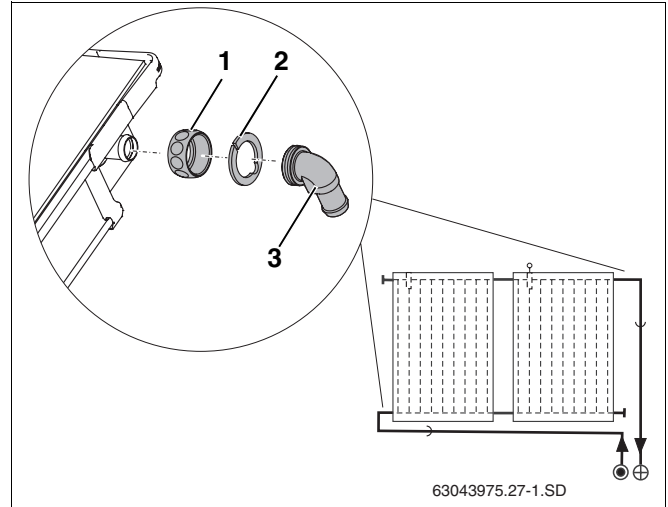

Fig. 22 Fitting angled nozzles
- ▶ Put 55 mm solar hoses (Fig. 22, **Item 2**) together with the pre-assembled dummy plug onto the two free connections on the collector array.
- ▶ Push nut (Fig. 22, **Item 1**) over the collector connections.
- ▶ Place the clamping disc (Fig. 22, **Item 2**) behind the head on the collector connection and press together.
- ▶ Align angled nozzle (Fig. 22, **Item 3**) and bolt together with nut.